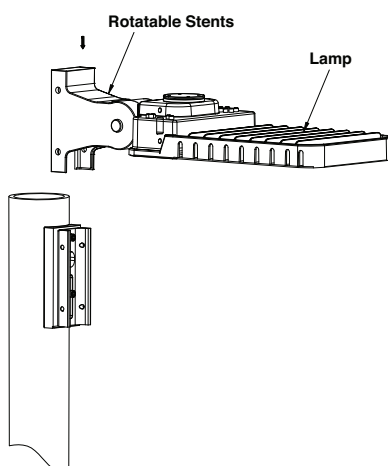

FIG. 4
2. Insert the fixture into the adapter. (See **FIG. 4**)